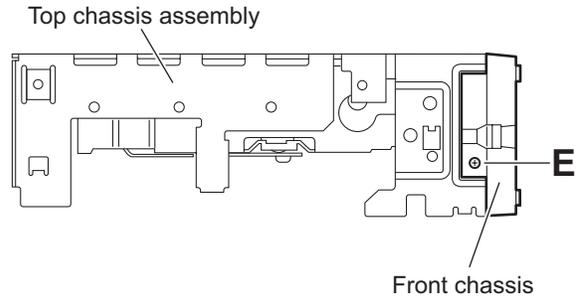

Fig.7
3.1.4 Removing the front chassis (See Figs.7 and 8)
- (1) From the both sides of the top chassis assembly, remove the two screws **E** attaching the front chassis. (See Figs.7 and 8)
- (2) Take out the front chassis.